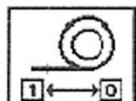
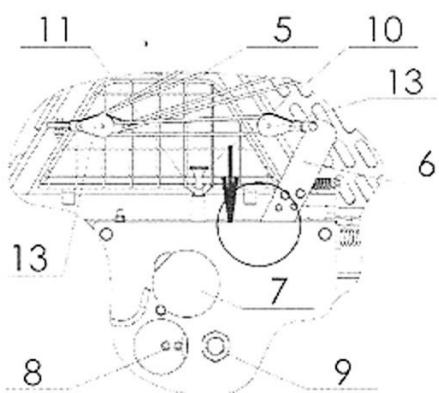
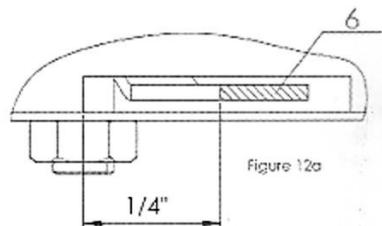

Figure 9
Figure 12
Figure 12a
Before starting pulling the black rope, check that it is properly wound between the small pulleys (figure 12). This winding is correct when the handle (pos. 6) returns in the starting position OFF (figure 9), after we stop pulling the rope (pos. 5, figure 12).
Setting is done so that we mount a dynamometer on the black rope. If there is no dynamometer on disposal, spring scale with appropriate weighing range can also be used. Once the dynamometer [scale] is mounted, pull the rope with force of 350 N (77 lbs) and follow the handle position [pos. 6, figure 12]. In plan view, this handle is shown on figure 12a. Nut on the main shaft [pos. 9, figure 12] regulates the handle position [pos. 6] as long as the handle starts moving away from the rest, but no more than 3/16". If the nut is over-tightened [pos. 9, figure 12] and it has moved away from the rest for more than 3/16", the required axial force on the frictional surface of the clutch was reduced excessively. The winch will not gain required towing force or the frictional surface of the clutch will be damaged due to sliding.
With screw [pos. 10] and wing nut [pos. 11, figure 12] set the preliminary brake. Proper setting ensures that the wire rope does not automatically or too easily unwinds from the drum. This could cause too loose winding and damage to the wire rope, if the brake is unburdened or when unwinding. Preliminary brake is properly set when it is still possible to unwind the rope without greater effort. If we pull the rope uphill, it is possible to additionally unburden this brake, so the towing of rope is easier, but it must be returned to its original position afterwards.
First, remove the triangular protective net on the winch column. Then rotate the cover (pos. 7, figure 12) and rotate the drum in a position, which enables unscrewing of the bolt on the drum. Unscrew this bolt in a position, so that the groove on the drum is free. Insert the wire rope in the guide of the upper pulley and direct it through the upper pulley to the rope drum. Insert the rope in the groove and tighten the bolt (pos. 8). Then start to wind according to the procedure, which applies to towing. Once the entire length of the wire rope is wound, unwind it again and wind it again strongly according to the procedure, which is described in the chapter "Wire rope unwinding" to prevent damage to the rope.